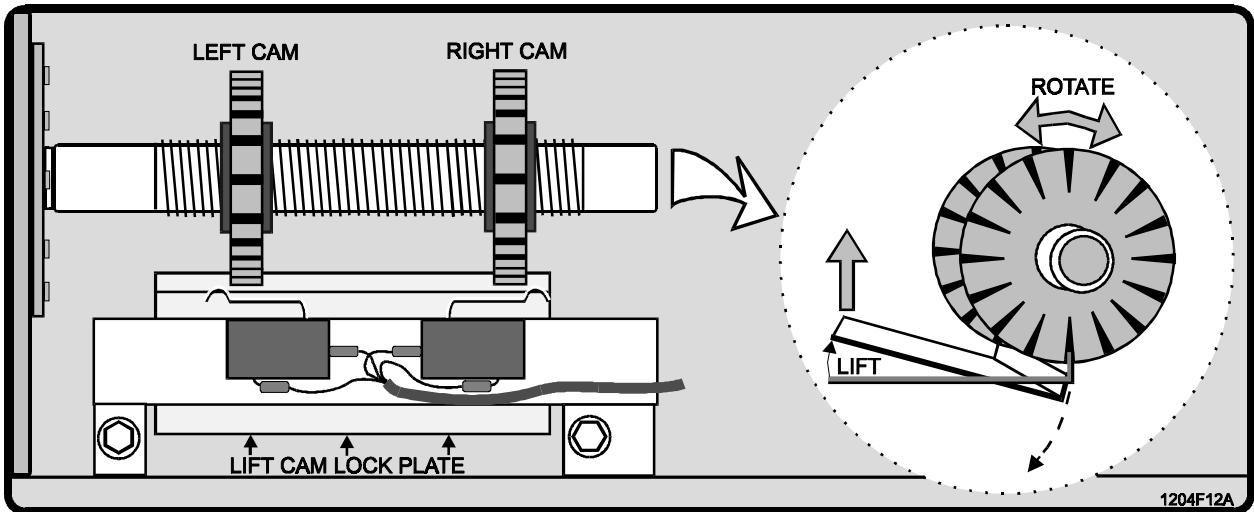

Figure 14. Limit Cam Setting.
- The left limit cam is close to the gearbox. The right limit is close to the end of the shaft (see Figure 14).